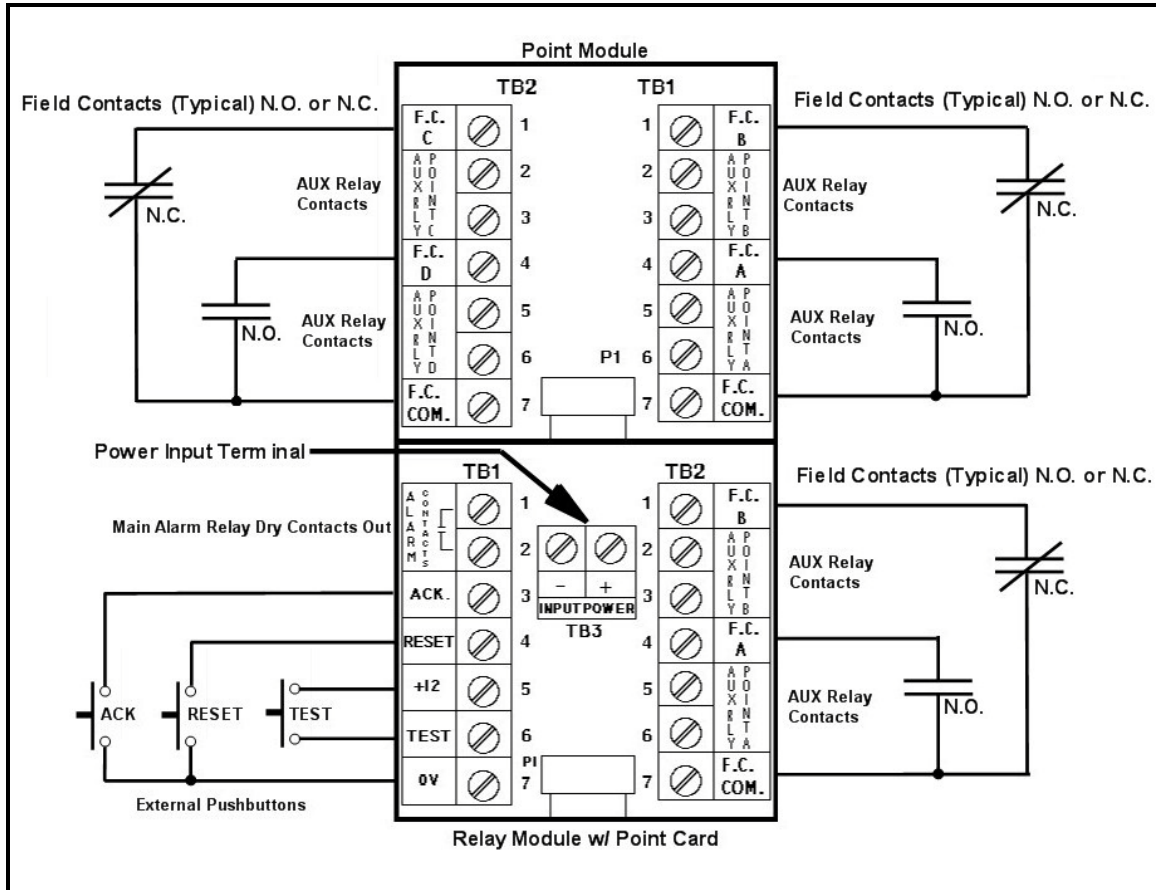

Figure 2 - Rear Panel View of Terminal Connections (Example)
- 1) **Connect External Pushbutton Controls.** The TEST, ACK, and RESET controls may be wired for remote access. Refer to figure 2 wiring diagram.
Figure 2 provides a wiring hookup example. It should be noted, the field input (F.C. A-D), all auxiliary relays contacts, and main alarm relay contacts are configurable for either normally open (N.O.) or normally closed (N.C.) via jumper selectors on the point cards and the alarm relay card.